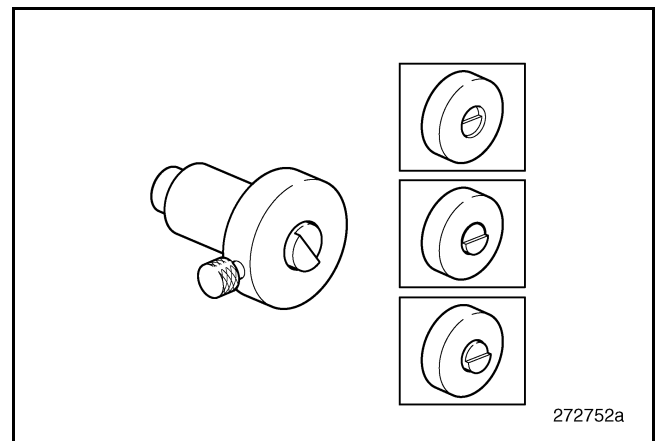

Figure 45 — Depth Gauge
- e. Carefully remove the gauge from the camshaft sensor bore and observe the location of steps between the inner and outer portions of the gauge (Figure 45):